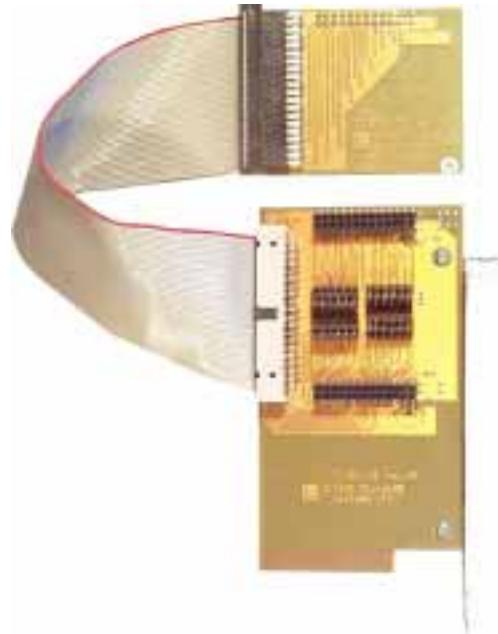
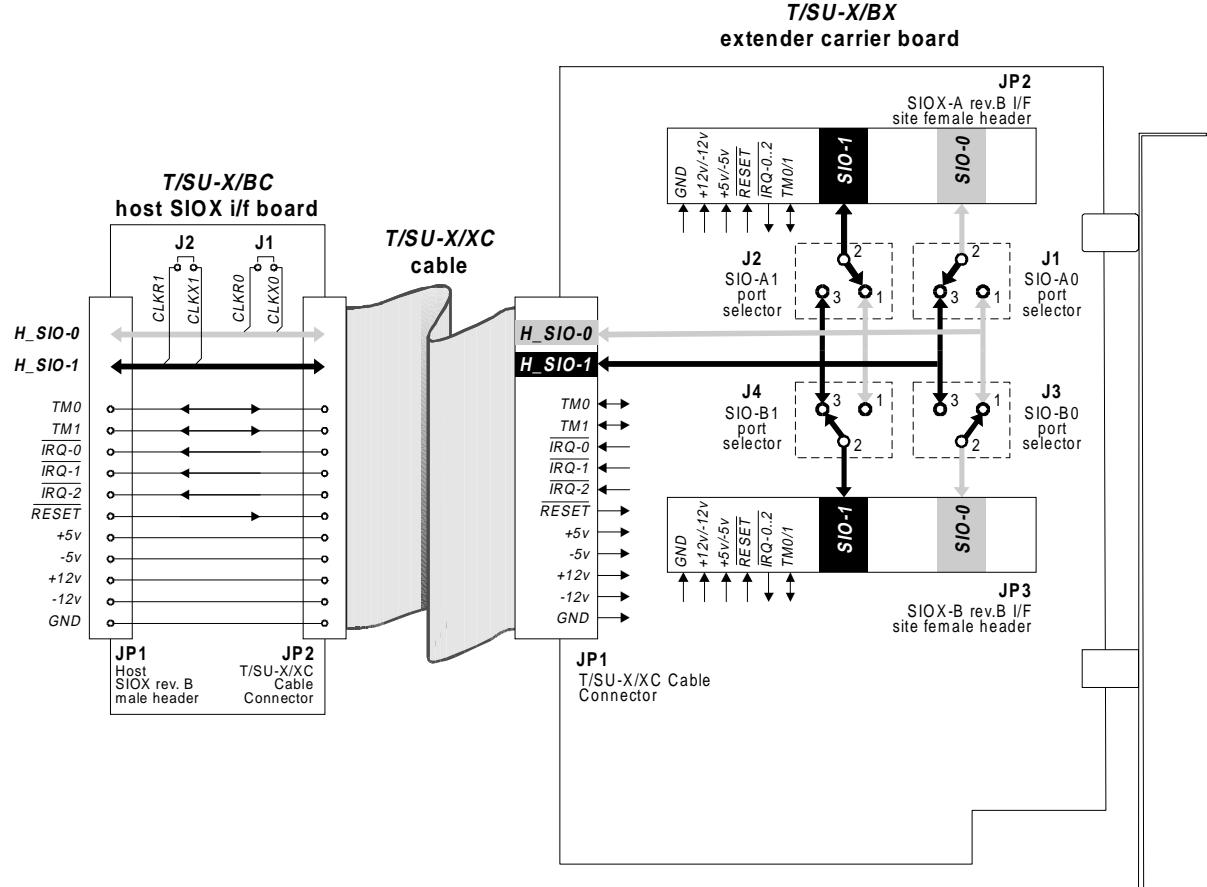

Fig. 1-1. *T/SU-X SIOX rev.B extender kit.*
Fig. 2-1. Block diagram of *T/SU-X SIOX* extender kit.
*T/SU-X* (fig.1-1) is SIOX rev.B interface extender kit for *TORNADO* DSP systems (*TORNADO-3x/54x/6x/P6x/P33/etc*), *TORNADO-E/EL* stand-alone DSP controllers (*TORNADO-E3x/E54x/E6x/etc*) and *TORNADO-PX/SX* DSP coprocessors (*TORNADO-PX31DP/SX30/etc*) from MicroLAB Systems Ltd.
Basic configuration and connectivity of *T/SU-X SIOX* rev.B extender kit is presented at fig.2-1.
*T/SU-X/BC* host SIOX rev.B interface board (fig.1-1 and A-1) is standard full-size SIOX DCM with two connectors on it (fig.2-1). Construction of *T/SU-X/BC* DCM assumes that host *TORNADO* DSP system with *T/SU-X/BC* DCM installed fits into one ISA/PCI-bus slot of PC chassis.